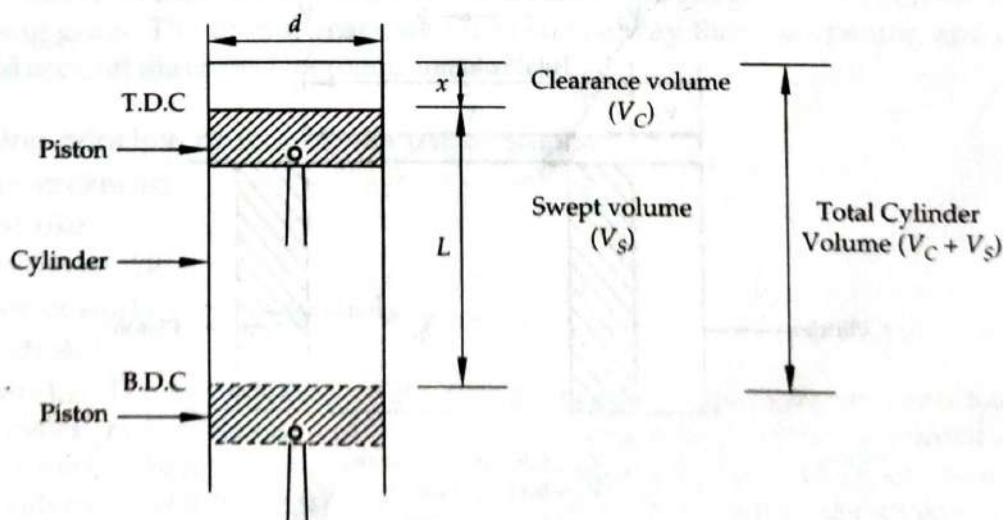

Fig. 5 Swept & Clearance Volume
5. Clearance volume: The volume of space included in between the under cover and piston, when the piston is at its I.D.C position or T.D.C. position, is known as clearance volume, (shown in Fig. 5).
6. Swept volume: The volume swept by the piston when it moves from one of its dead centre position, to the other, is called swept volume (shown in Fig. 5).
7. Total cylinder volume: The sum of the clearance volume and swept volume (piston displacement) is called total cylinder volume, (shown in Fig. 5).